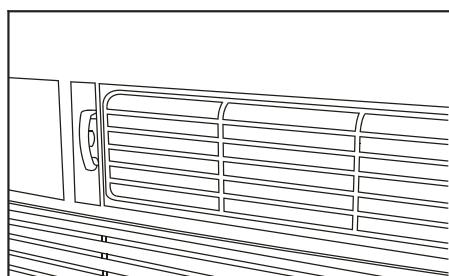

Fig. 1 (VENT CLOSED)
1. Recirculate inside air - Vent Closed (see Fig. 1)